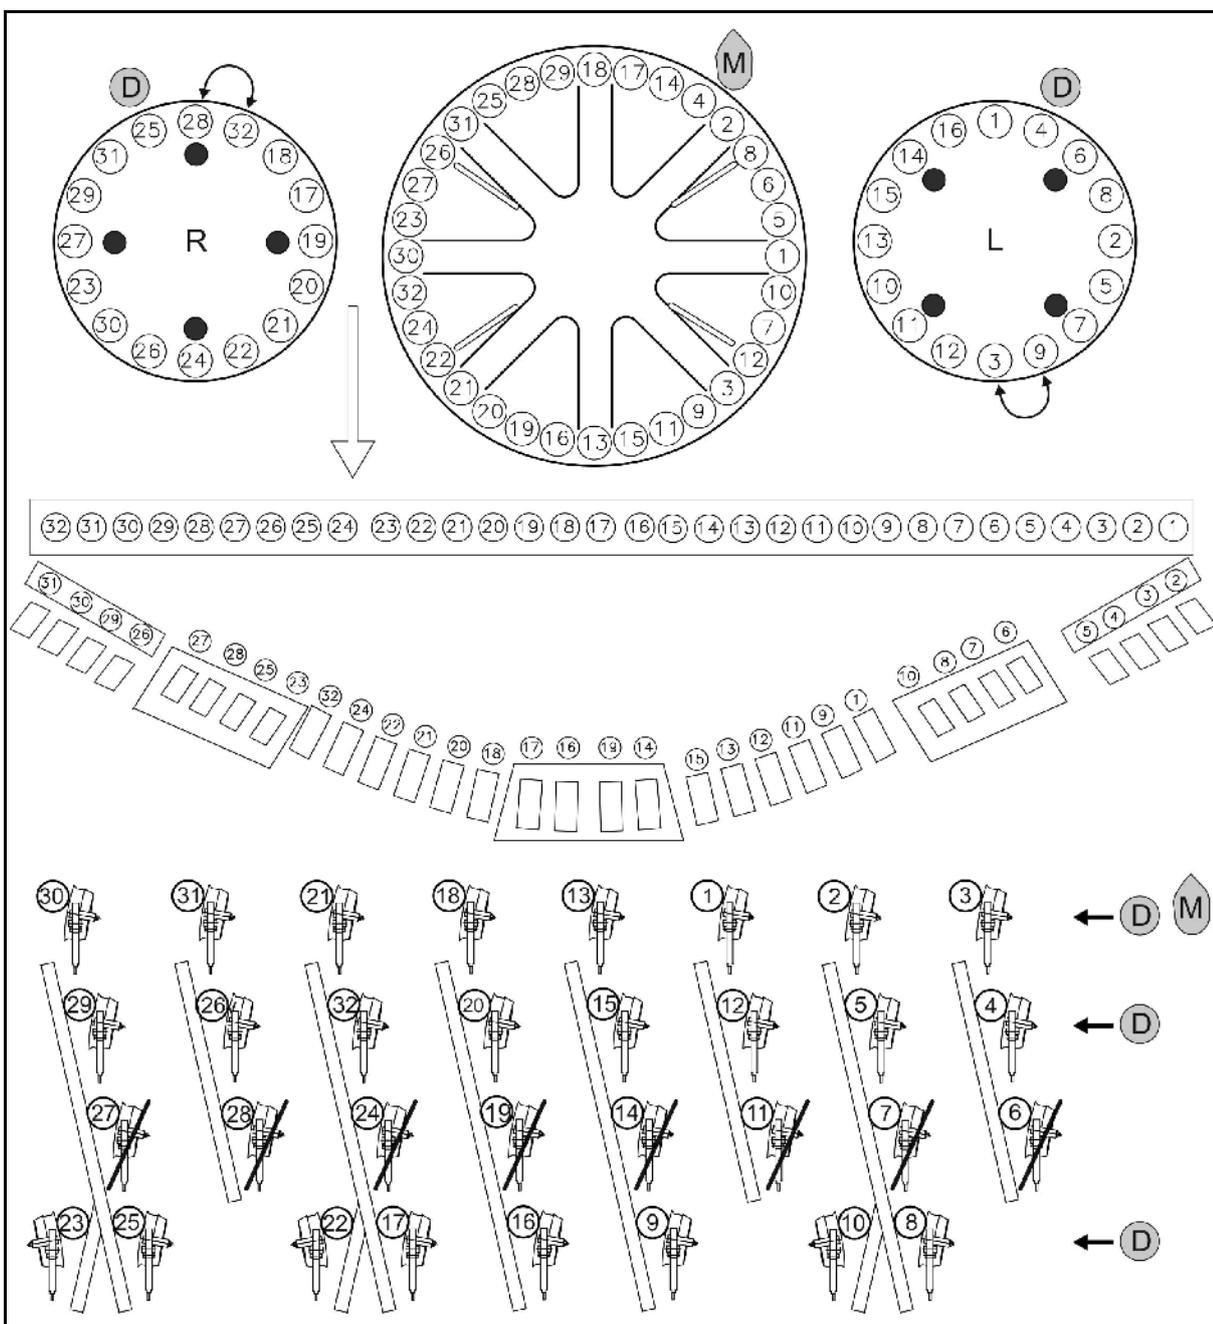

Fig. 52
- Maize ^M: Install the locking plates according to Fig. 52.
- Fertiliser ^D: Install the sealing plugs according to Fig. 52.